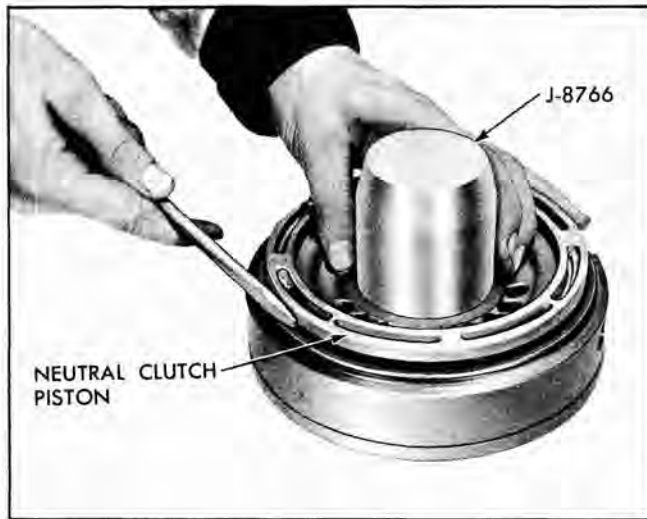

Fig. 87 Installing Neutral Clutch Piston
2. Install J-8766, inner seal protector over neutral clutch inner hub (Fig. 87).